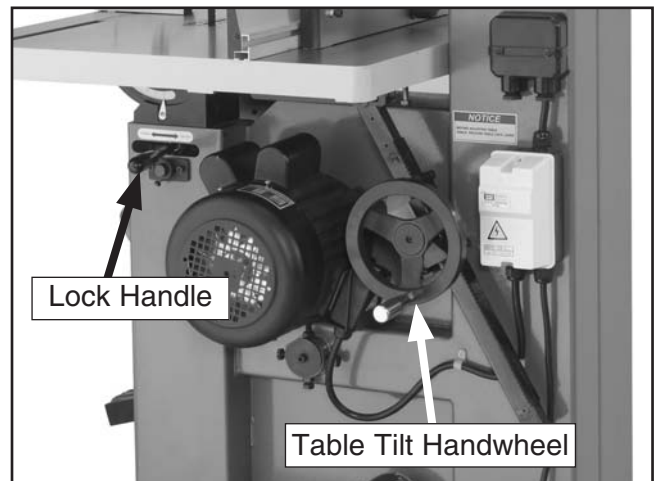

Figure 49. Table tilt controls.
2. Loosen the table tilt lock handle shown in Figure 49.
3. To tilt the table to the right, turn the table tilt handwheel clockwise (Figure 49).